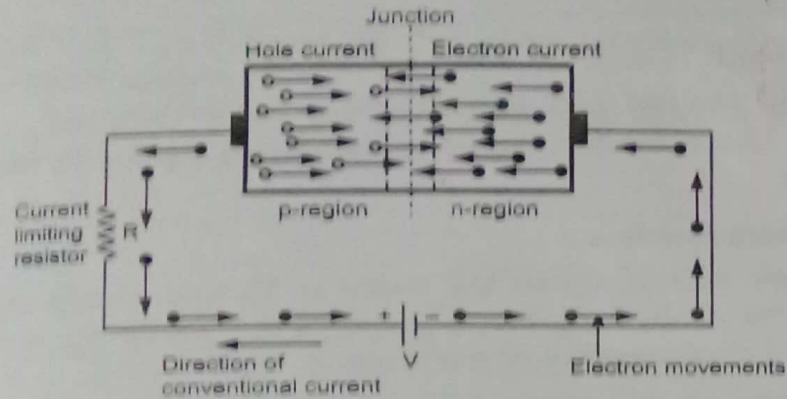

Fig. Q.4.2 Forward current in a diode
- The forward current in a diode is shown in the Fig. Q.4.2.